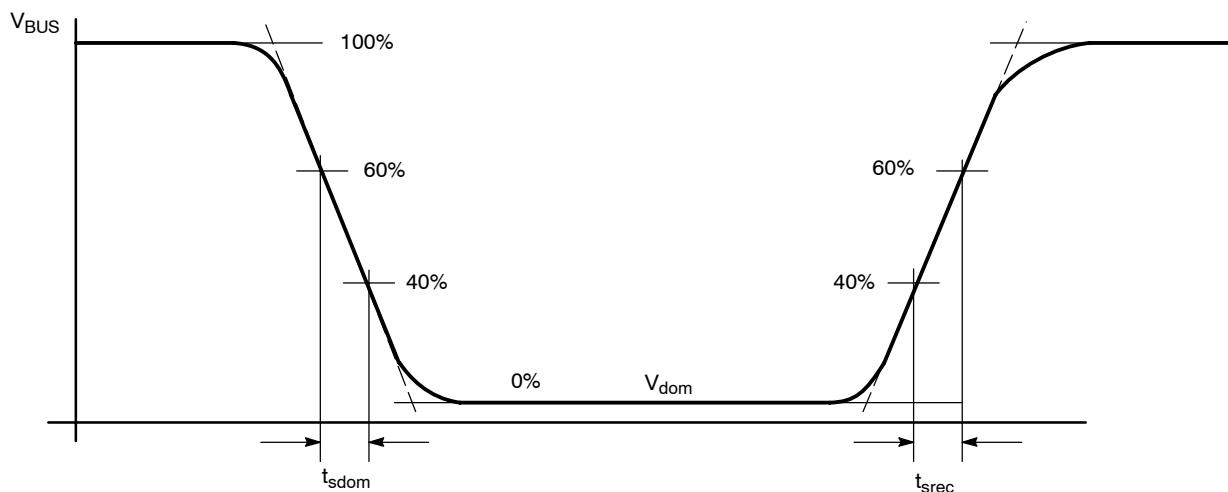

Figure 7. Slope Time and Slew Rate Calculation
- 13. See Figure 7 – Slope Time Calculation.